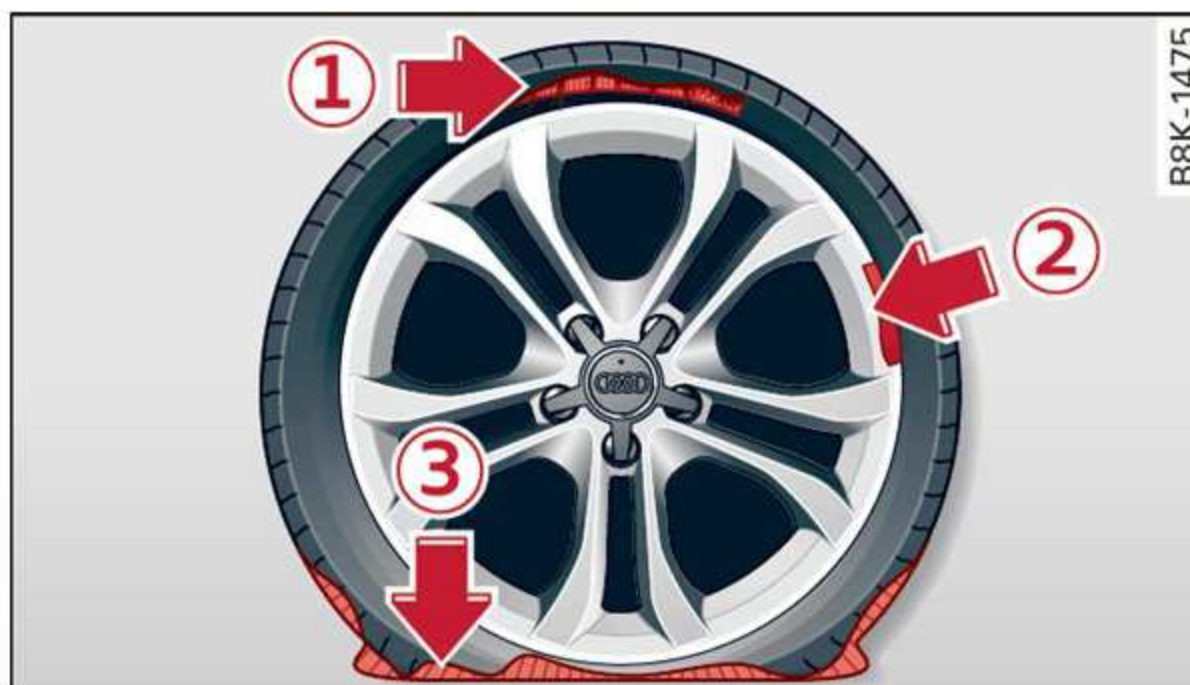

Fig. 186 Tire: tire damage that cannot be repaired
- If the tire has cuts or punctures that are larger than 0.16 in (4 mm) ① ⇒ *fig. 186*
- If the rim is damaged ②
- If you have driven with very low tire pressure or without air in the tire ③